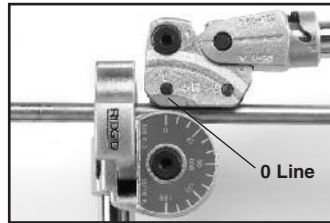

Figure 4
4. Lower Carriage Handle until the “0” Line on the Carriage aligns with the 0° designation on the Form (Figure 4).